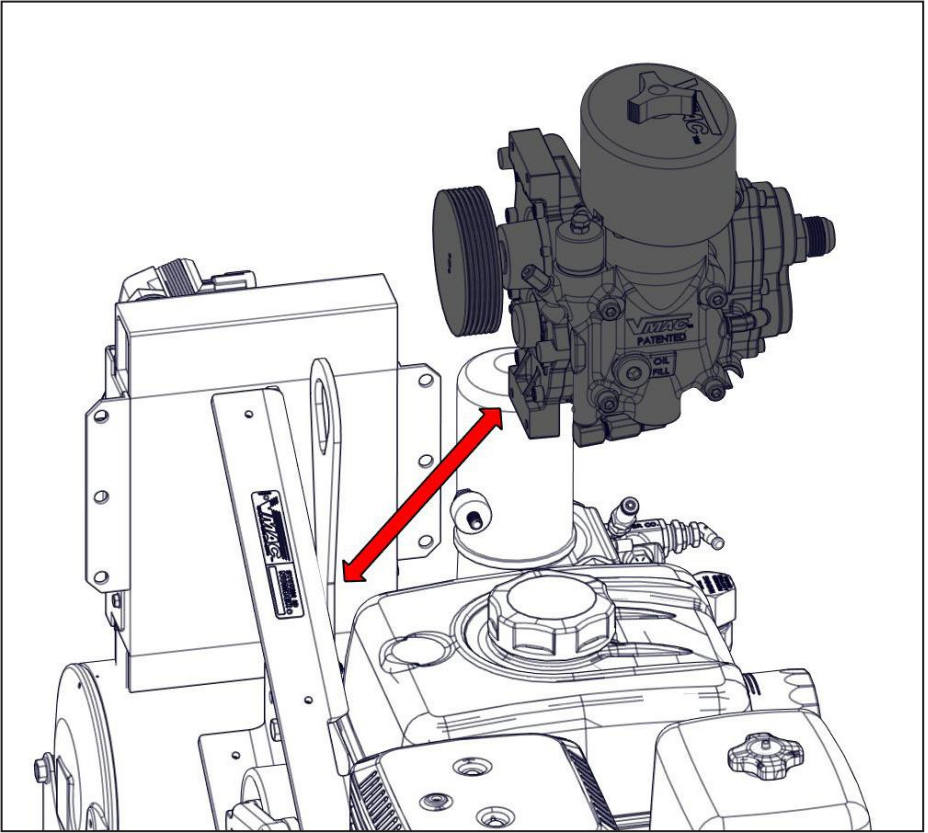

Figure 69 — Remove compressor
- ☐ Lift the compressor up and away from the belt guard to remove it (Figure 69).